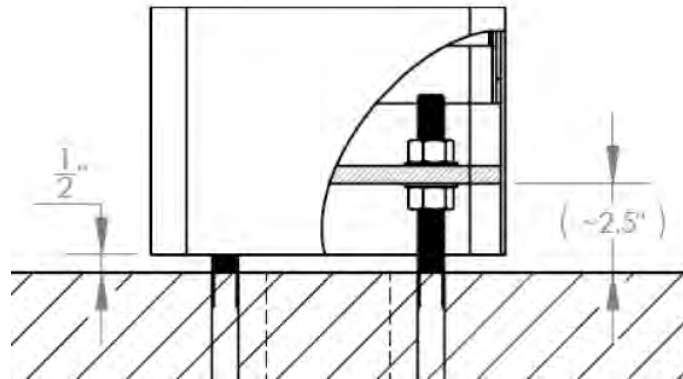

Figure 1. Tower Enclosure Installation
2. Install one 3/4" leveling nut and one washer on each anchor bolt 2 1/2" - 3 1/2" above grade and verify that nuts are level (0° pitch) as shown in **Figure 1**.